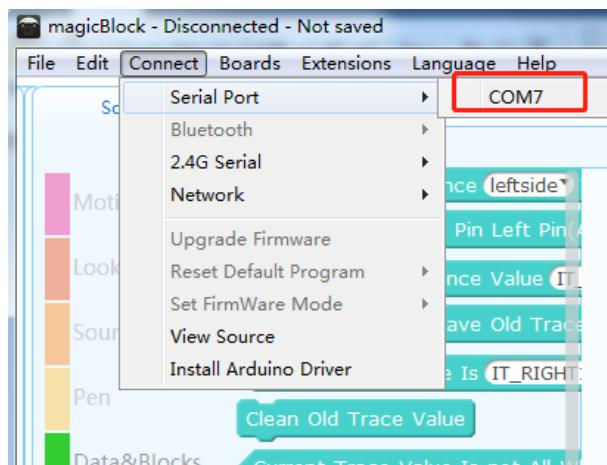
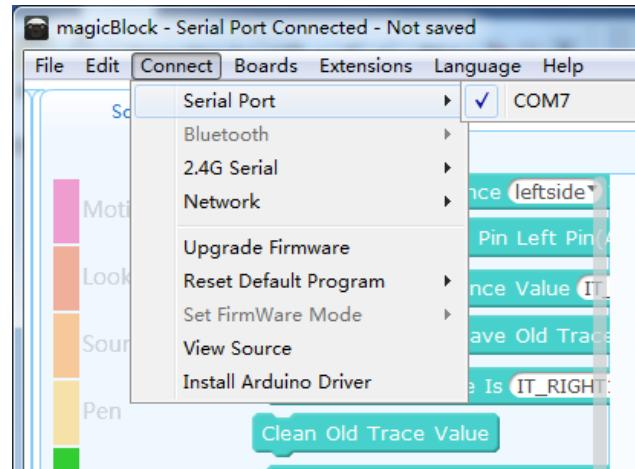

Figure 2-2-3
Figure 2-2-4
- 3) Click on "Connect to COM4 (different computers have different numbers of COM ports)", as shown in Figure 2-2-3. After the correct connection, there will be a "Serial Port Connected" prompt at the top of the software. At this time, MagicBlock and Hummer-bot are successfully connected, as shown in Figure 2-2-4.